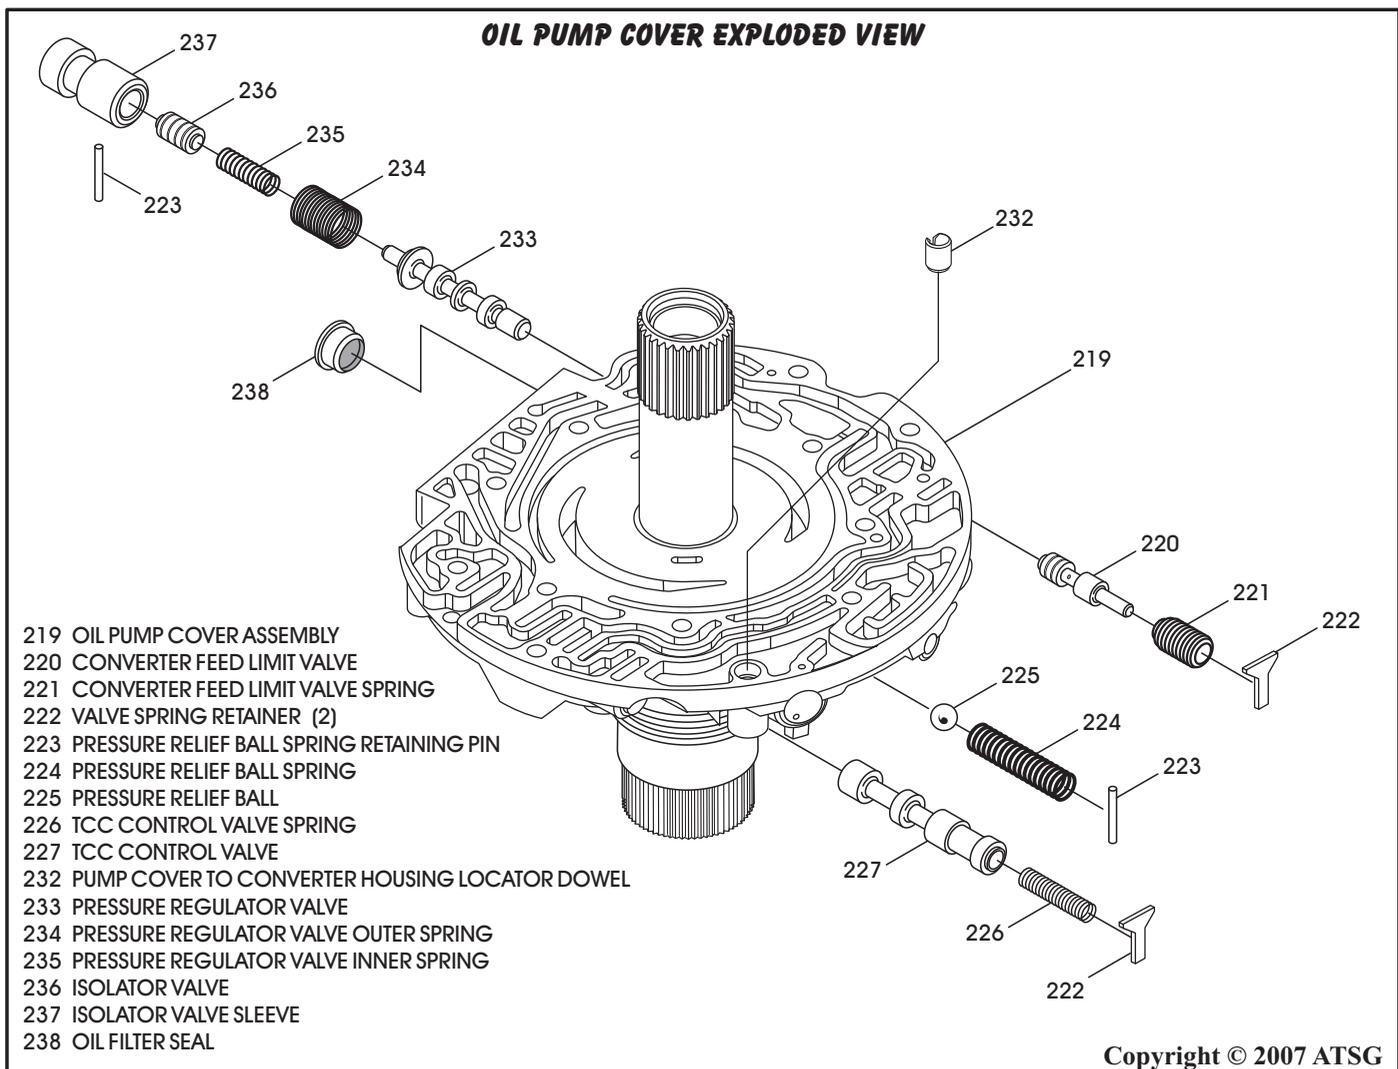

Figure 62
9. Disassemble the pump cover assembly using Figure 62 as a guide.
13. Install each valve train back into their bores *exactly* as shown in Figure 62.
14. Be sure to install the locating dowel, as shown in Figure 62, if you removed it.